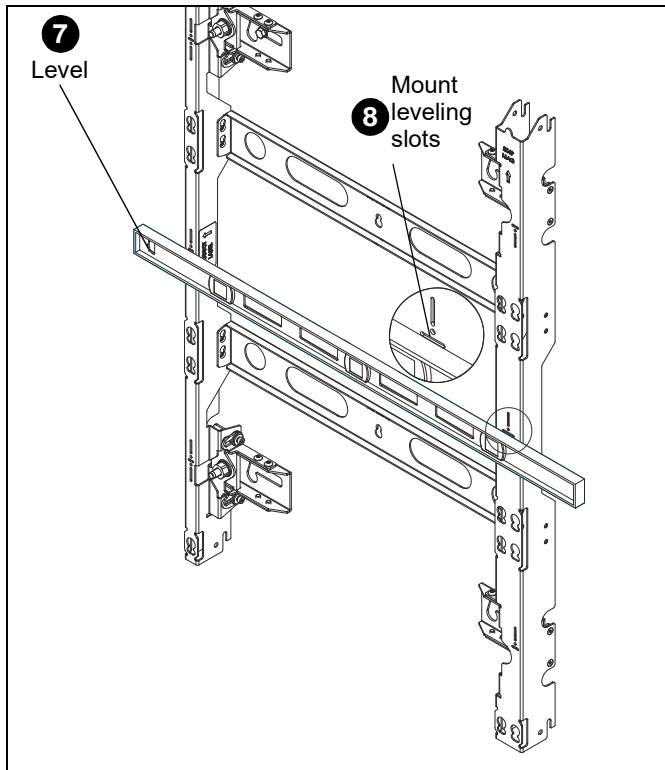
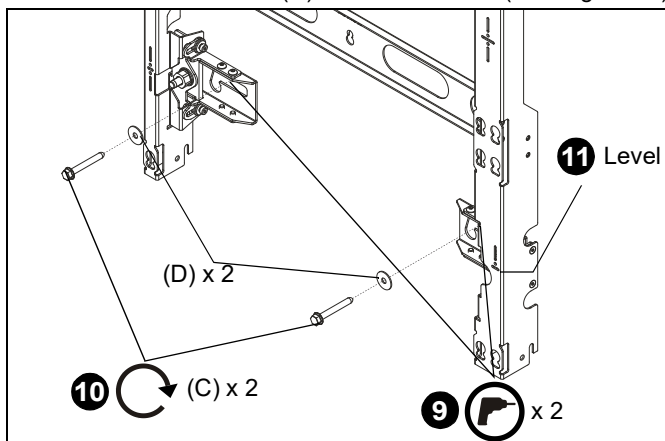

Figure 11
Figure 12
7. Place a level across front of the mount at bottom of leveling slots. (See Figure 11)
8. Check the level of the mount at the bottom of the leveling slots. (See Figure 11)
9. Drill pilot holes near top of centerline of lower slots for maximum height adjustment (see Table 1 for size) and follow fastener information (appropriate for wall type) located in Table 1. (See Figure 12)
10. Loosely install 5/16 x 2-1/2" lag screws (C) through the 5/16" fender washers (D) to secure to wall. (See Figure 12)
11. Check the level of the mount horizontally at the bottom of the leveling slots and vertically on the side of the uprights. (See Figure 11) and (See Figure 12)
12. If the mount is not level, slide or use a dead blow hammer to lightly tap the spacer into place. This will lift the mount up as the lag screw rides in the washer's angled slot. (See Figure 12)